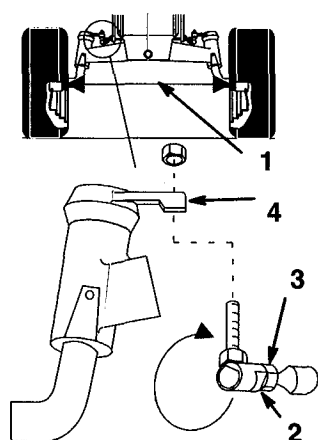

Figure 29
Maintain toe-in of the front wheels as specified. If uneven tire wear, lawn scuffing or hard steering develop adjustment may be required. Check the toe-in after every 100 operating hours or yearly, whichever occurs first (Fig. 29).
3. Measure, between the rims, at spindle level, in the front and rear of the wheels (Fig. 29).
2. Remove ball joint from one steering lever (Fig. 29).
4. Hold flats on ball joint to align with flats on tie rod and tighten jam nut (Fig. 29).